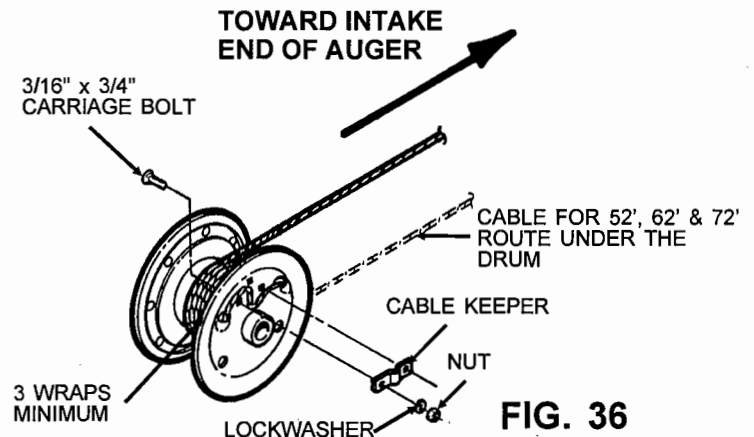

FIG. 36
Step 34. Attach 1/4" lift cable to winch drum so cable will wrap over winch drum on 32' & 42' models and under winch drum for 52', 62' & 72' models when turning handle in a clockwise direction. See Fig. 36. From inside of drum, insert the cable through one round hole in the drum side, until it extends 3 cm past the two square holes. Next clamp the cable to the outside of the drum with the cable keeper, using two 3/16" x 3/4" carriage bolts, lock washers and nuts. Be sure that the carriage bolt heads are on the inside of the drum.